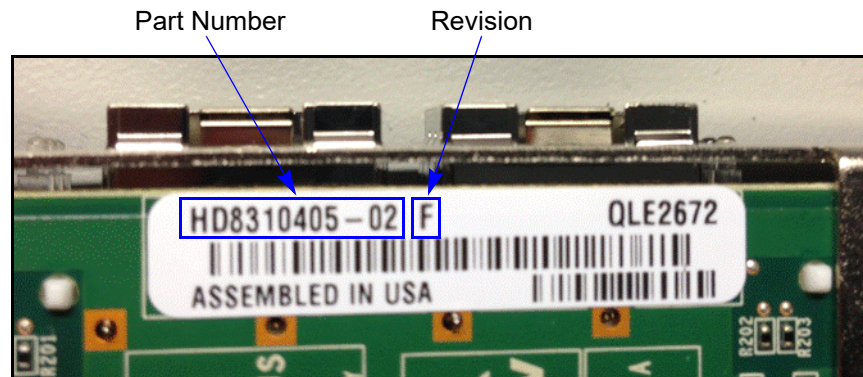
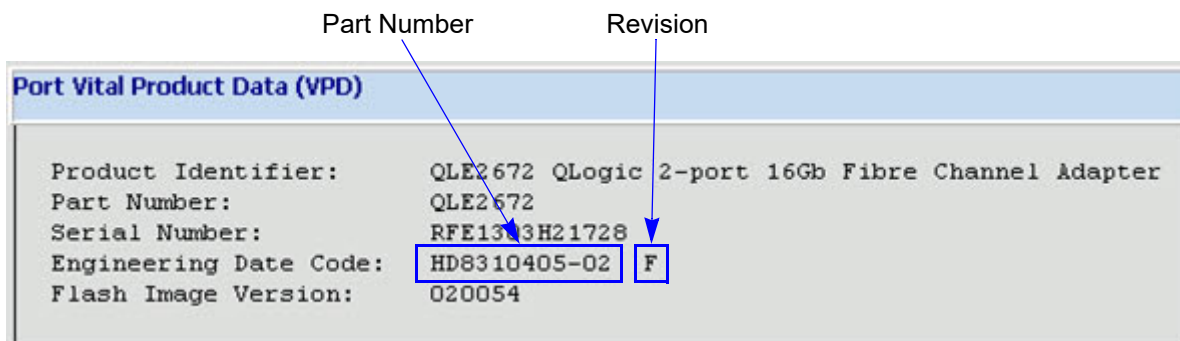

Figure 3-1. 2600 Series Adapter Part Number Location—Physical
Figure 3-2. 2600 Series Adapter Part Number Location—QConvergeConsole GUI
- Locate the physical label on the adapter that has the part number (see Figure 3-1), and then check to see if it is listed in Table 3-1.
- In QConvergeConsole GUI, select a 2600 Series port in the left pane, and then click the **VPD** tab in the right pane. Under **Port Vital Product Data (VPD)** (see Figure 3-2), view the **Engineering Date Code** for the part number, and then check to see if it is listed in Table 3-1.
Some 2600 Series Adapters that support personality change require an *enablement kit* (available on the QLogic Web site) for the change to work. For the adapters listed in Table 3-1 on page 21, revisions A, B, C, D, E, F, and G require the enablement kit; revisions H and later do not. The adapter revision is printed on a label on the adapter (see Figure 3-1 on page 21) and displayed in QConvergeConsole GUI (see Figure 3-2 on page 22).